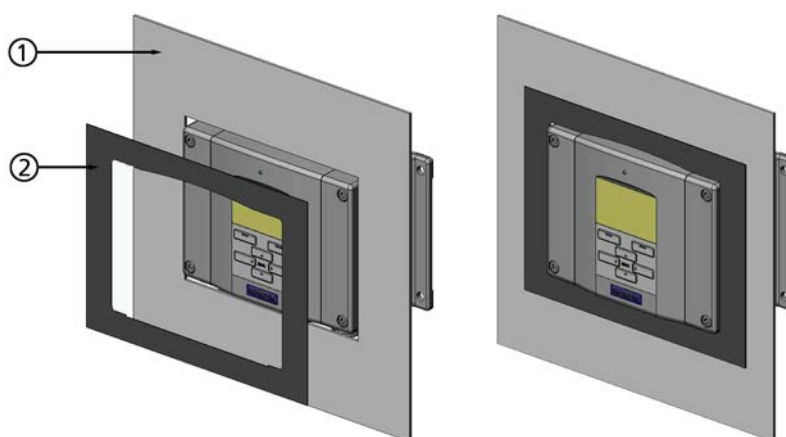

Figure 13 Panel Mounting Frame
4. Remove the paper protecting the adhesive tape on the frame, and attach the frame around the transmitter. Refer to Figure 13 on page 27 below.
Numbers refer to Figure 13 on page 27: